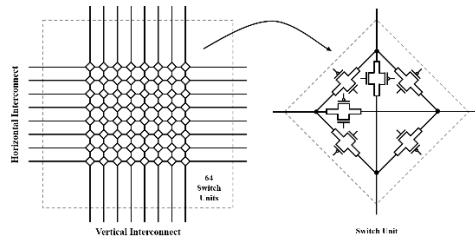

Fig. 2. Switch Block
b. Switch Block: The Switch Block (Fig. 2) contains 64 sub-blocks called Switch Unit, which create routes between the interconnects. The switching operation inside each Switch Units is done using 6 transmission gates.